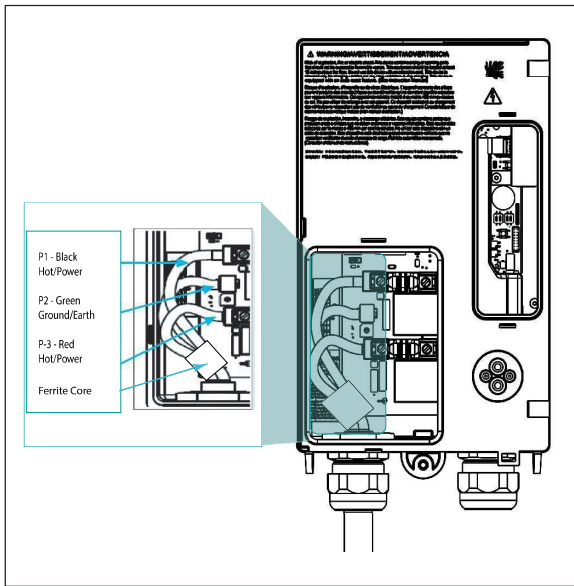

Figure 8. Hardwire the VersiCharge
8. Slide the ferrite core over the black and red wires ONLY and into position per Figure 8 (the green wire/ground should not be placed through the ferrite core).